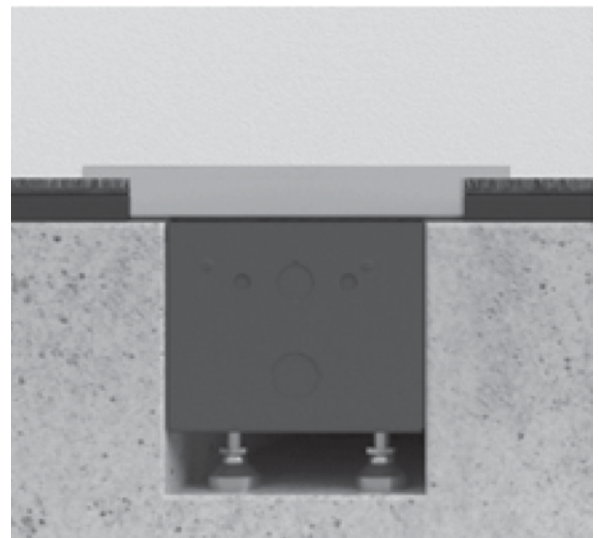

Figure 12B: Surface Mount – Grille Flange Sits on Top of Floor
- Remove grille and adjust leveling feet so flange of grille is resting on floor surface. See figure 12B.